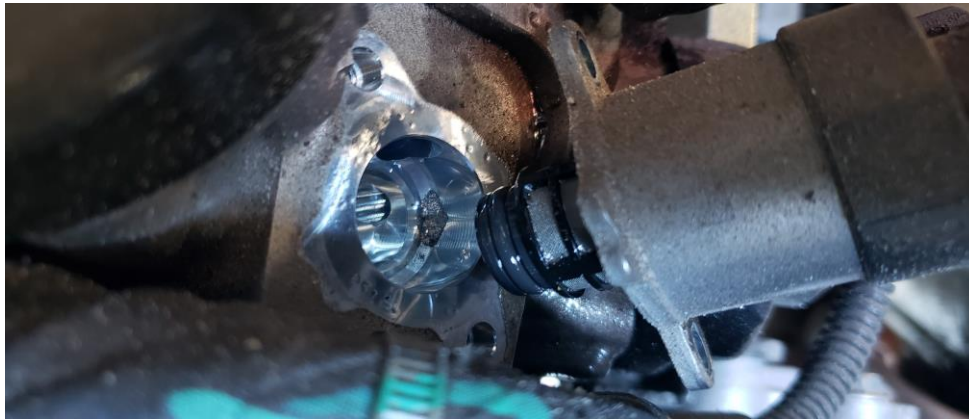

Figure 1.
4. Remove the Fuel Quantity Solenoid (FQS), and take a detailed picture of the FQS, and bore to confirm the condition. See (Figure 1.). Attach the picture to the Star case.